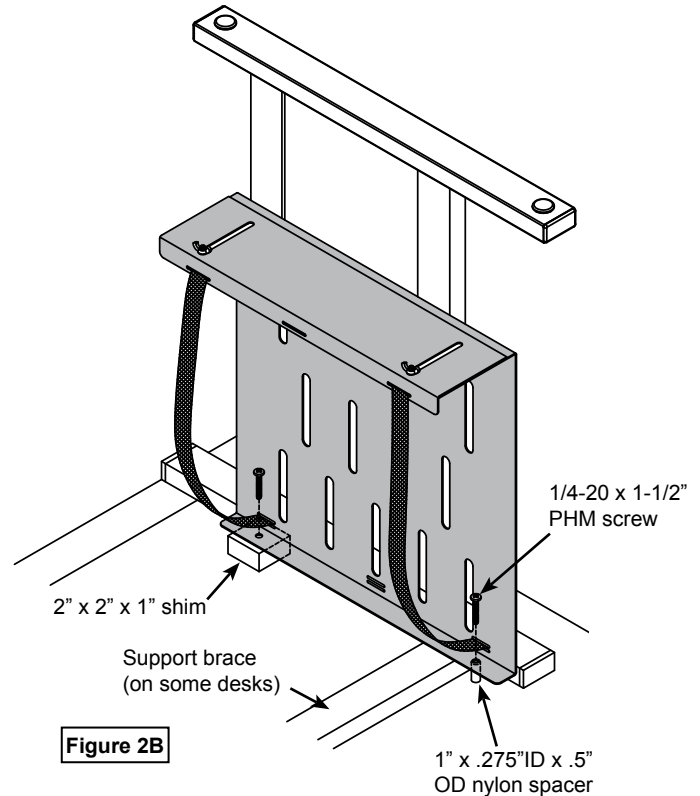
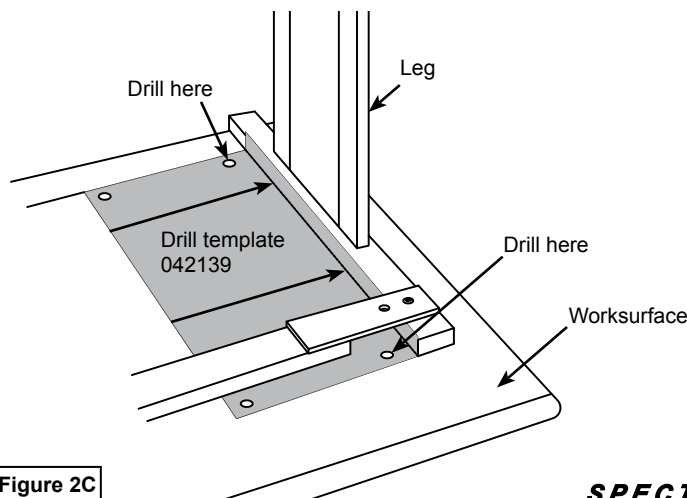

Figure 2B
Figure 2C
Note: For desks with support brace **Figure 2B**, use one nylon spacer (044890) in the front hole, and one 2" x 2" x 1" shim (010093) in the back hole with the longer 1/4-20 x 1-1/2" PHM screws (026547.) The front of the sling will extend past the support brace.
2. Fold and tape the enclosed drill template (042139) to the underside of the worksurface in the position shown in **Figure 2C**.
4. Drill through the template on the two marked holes closest to the leg, 3/4" deep. **Figure 2C**.
5. Attach CPU sling to worksurface using (2) #10 sheet metal screws.
Note: Desks without inserts or support brace use two #10 x 3/4" PHSM Screws (026057.) Desks without inserts that include a support brace as in **Figure 2C**, use one nylon spacer (044890) in the front hole, and one 2" x 2" x 1" shim (010093) in the rear hole using the longer #10 x 1-3/4" PHSM screws (021605.) The front of the CPU sling will extend past the support brace (See **Figure 2B** for reference.)